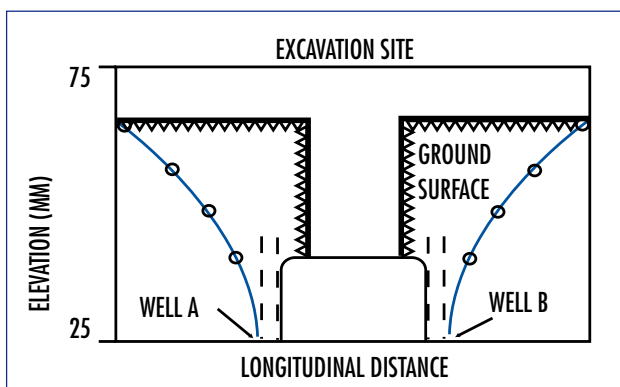

Fig. 4: Typical graph obtained from abstraction from two adjacent wells
- *Cone of depression for two wells. (Fig. 4)*
A profile of the water table can be obtained (fig.4) when using two wells simultaneously. It is possible to compare the result with theoretical results obtained for a single well using the method of superposition.